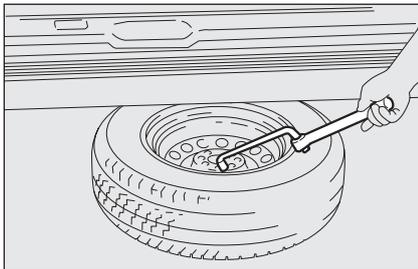

fig. 7a
- use the wrench **C** to take the wheel out of the vehicle **fig. 7a**;